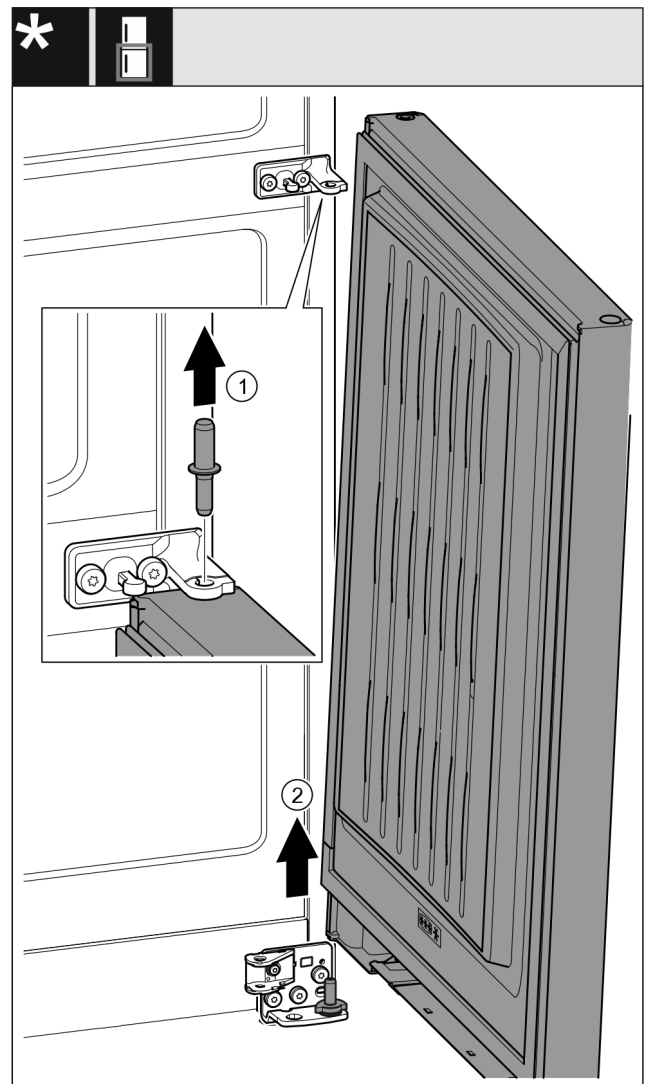

Fig. 23 \*
- ▶ Pull out the bolts toward the top. Fig. 23 (1)\*
- ▶ Swing the door out, pull it upward and set it aside. Fig. 23 (2)\*